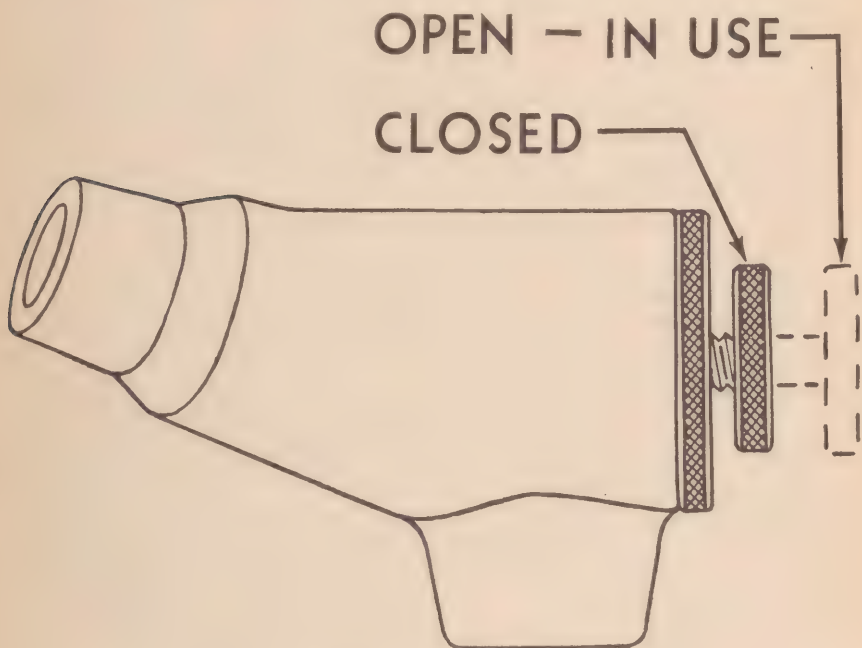

Figure 2. Y-piece inhaler.
c. Y-piece inhaler shut-off valve. The Y-piece inhaler shut-off valve (fig. 2), when in the closed position, closes off the ends of the inhaler tubes and allows the patient to breathe into the atmosphere. In the open position, the patient breathes directly into the bell.
i. Adjust inhaler to patient. (1) *Face masks.* There are two sizes of face masks, the smaller for women and children, and the larger for men. The face mask is held in place by a harness about the head and snapped on with glove fasteners. The pneumatic cushion on the mask must not be blown up tight; merely open the valve and the air will fill the cushion properly, then close the valve to keep the air in. This should be done before the mask is put on. When applied, the face mask should fit airtight, but not so tight as to be uncomfortable. The mask should be applied to the patient before it is connected to the Y-piece inhaler. After the mask is adjusted so that it makes an airtight adaptation to the patient, connect Y-piece inhaler to mask by bending the flexible metal tube support to bring the Y-piece inhaler into position to attach it to the mask without pull or stress on it. To lubricate the rubber face masks so that they will slip on the Y-piece inhaler easily, use water not grease. If it is difficult to adapt the face masks to a patient, the mouthpiece may be preferred in some cases.
c. Open the Y-piece inhaler *fully*. (See fig. 2.)
a. To prevent water from getting inside unit. (1) Do not pull up bell too rapidly. This bell should be pulled up very slowly when the Y-piece inhaler shut-off valve is open and should *never* be pulled up when this valve is closed.